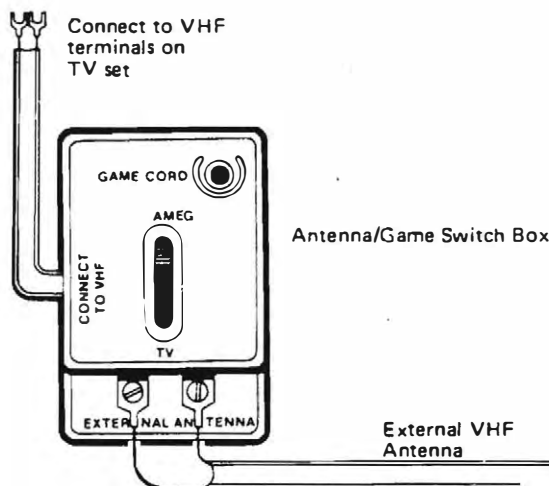

Figure 1
1. The Antenna/Game Switch Box (see Figure 1) is provided as a convenience to allow selection of either Odyssey² or regular television viewing, without having to disturb antenna connections.